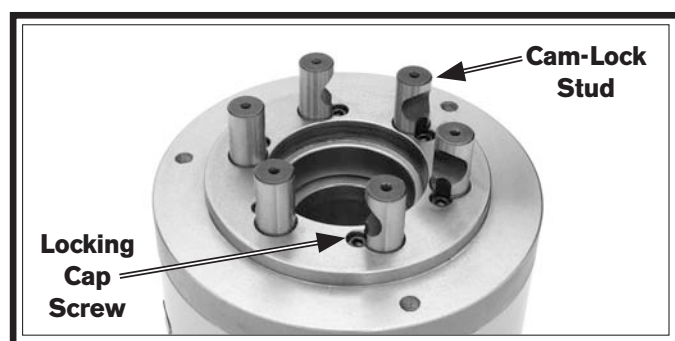

Figure 44. Identifying chuck camlock studs and locking cap screws.
2. If installed, remove the locking cap screw adjacent to each of the six cam-lock mounting holes (see **Figure 44**).